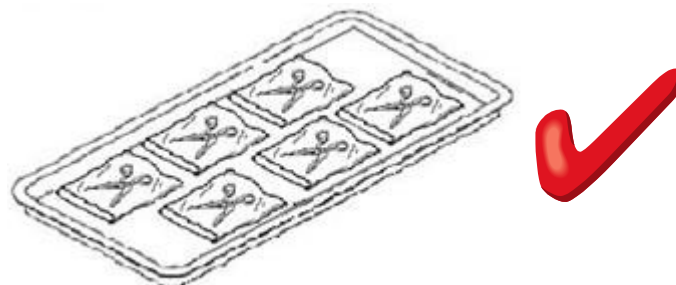
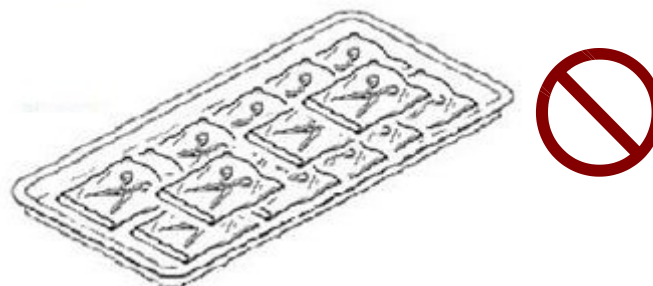

Figure 168
Figure 169
**WARNING:** If implements are packed with sterilizing pouches, please make sure not to pile them up. Follow Figure 168 for correct placement and do not overlap pouches like to Figure 169 ensure the sterilization quality.